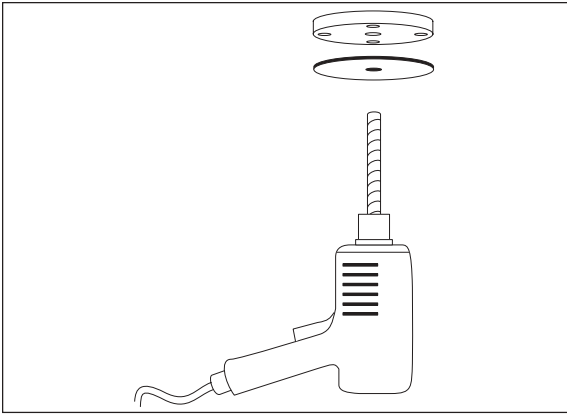

Figure 4
- Cut out circle "C" on template and place onto the lower spring seat with a dab of grease to hold in position. Center punch and drill a $\frac{1}{2}$ " hole (Figure 4).